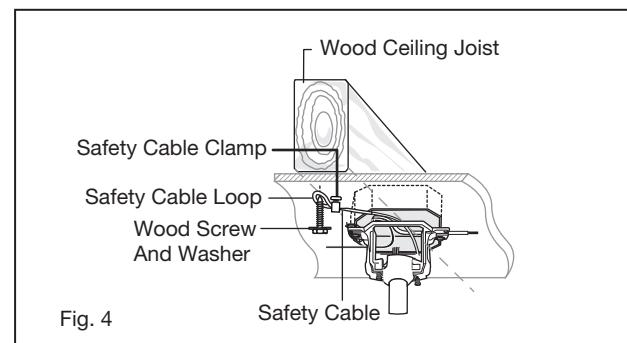

Fig. 4
- 3 Lift ball/downrod/fan into hanger bracket opening. **NOTE:** The tab opposite hanger bracket opening should fit in slot on ball. (Fig. 4)